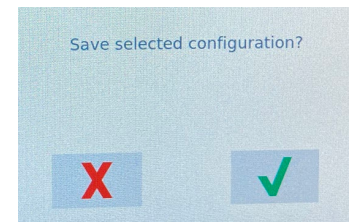

Figure 39
52. The controller displays "Save selected configuration?" Press the green checkmark button to continue (see Figure 39). If another display on the cabinet needs to be configured, repeat steps 41-52 on that display.